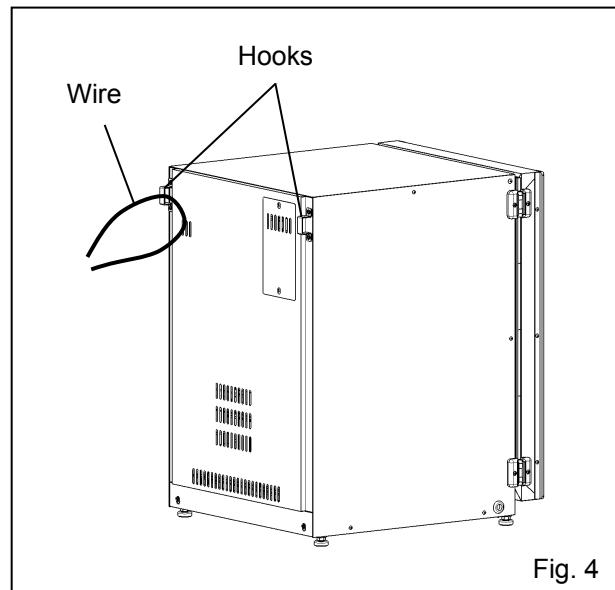

Fig. 4
- Two hooks are attached to the rear of the upper incubator. When stacking incubators, fix the upper incubator to the wall with these hooks and wire or chain (Fig. 4).